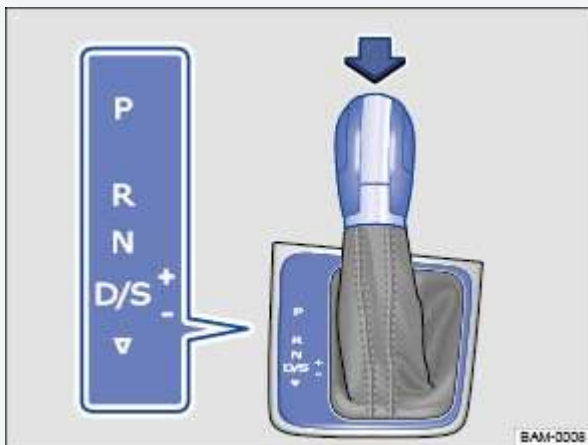

Fig. 141 Automatic transmission selector lever with shift lever release button (arrow).
Automatic transmission vehicles have an Automatic Shift Lock (ASL). With ASL, you must switch on the ignition, depress the brake pedal and hold it down while pressing the release button on the selector lever handle in the direction of the arrow ⇒ Fig. 141 to move the selector lever out of Park (P) and into a drive gear. When the selector lever is in Neutral (N), you also have to depress the brake pedal before you can move the selector lever to position (D/S), or Reverse (R).
|                         | Changing gear selection | Switch between Drive (D) and Sport drive (S) by pulling the selector lever once to the rear from gear position D/S ⇒ <a href="#">Fig. 141</a> .The selector lever always returns to gear position D/S. |